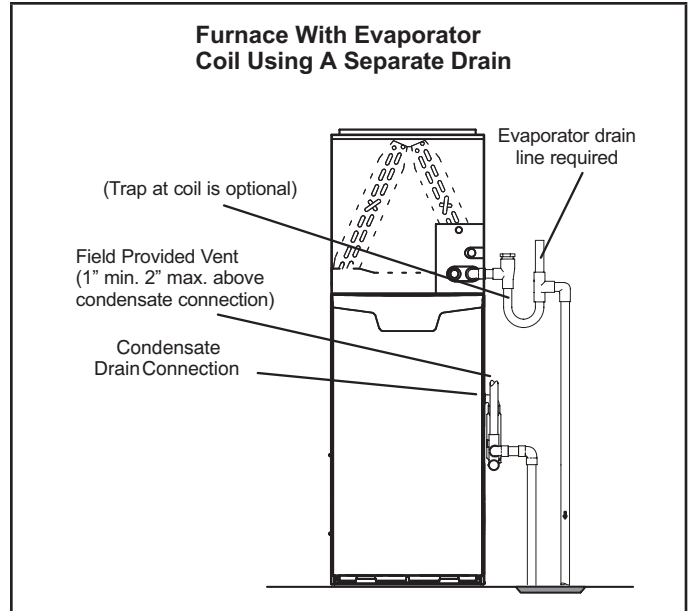
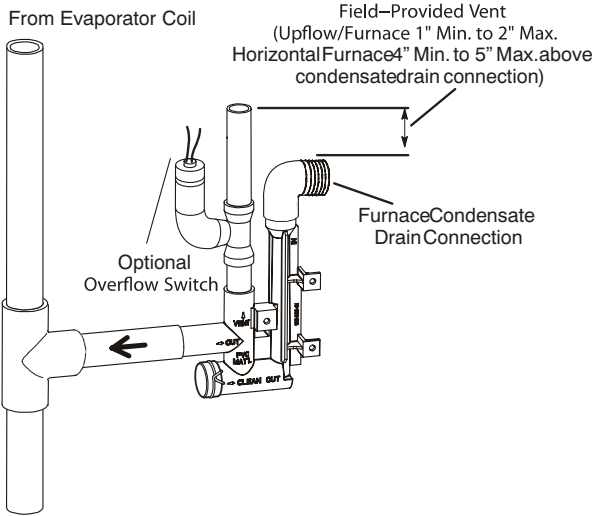
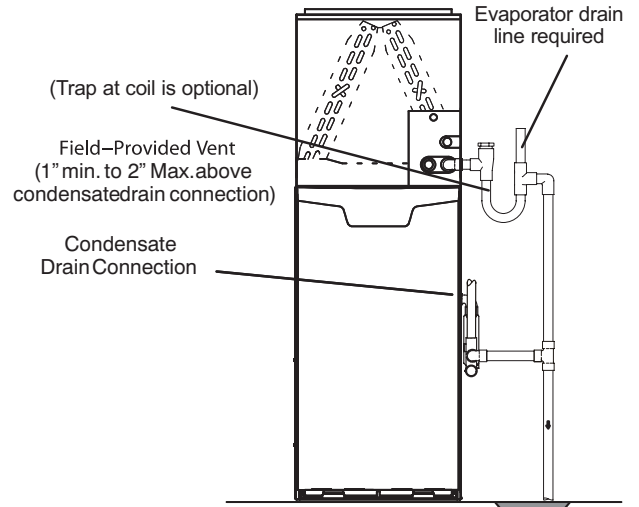

FIGURE 36
FIGURE 38
FIGURE 39
- 5 - Figures 36 and 37 show the furnace and evaporator coil using a separate drain. If necessary the condensate line from the furnace and evaporator coil can drain together. See figures 38, 39 and 40. Upflow furnace (figure 39) - In upflow furnace applications the field provided vent must be a minimum 1" to a maximum 2" length above the condensate drain outlet connection. Any length above 2" may result in a flooded heat exchanger if the combined primary drain line were to become restricted. Horizontal furnace (figure 40) - In horizontal furnace applications the field provided vent must be a minimum 4" to a maximum 5" length above the condensate drain outlet connection. Any length above 5" may result in a flooded heat exchanger if the combined primary drain line were to become restricted.